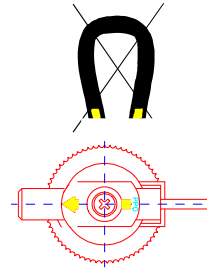

Fig.2
- Make sure that there are no strong magnetic fields close to the flow switch. Such fields can affect the proper function of the instrument (fig. 2).
- There is an arrow on the flow switch. Make absolutely sure that this arrow is parallel with the pipe axis and points into flow direction (fig.2).